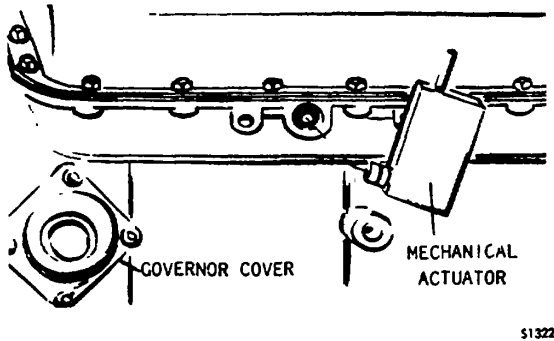

Fig. 7-35. Installing Mechanical Actuator
(3) Install the governor cover, and retain it with four 5/16-18 x 9/16-inch bolts (Fig. 7-35) Tighten the bolts to 15-20 lb ft (20-27 N-m).
(1) Install the mechanical actuator valve actuating rod, larger diameter end first (Fig. 7-35).